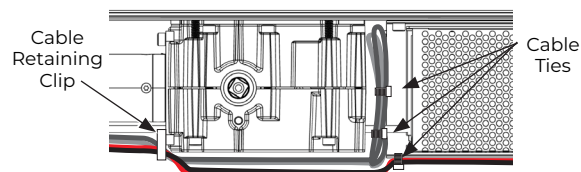

Figure 18 Left Hand Door, Looking down from top
3. With door fully closed, rotate the main arm toward the latch edge of the door until the arm tube is at a 90° angle (perpendicular) to the door. (Figure 18)
4. Use the arm screw provided with the main arm to secure the tube to the forearm rod. (Figure 18)
1. To prevent wire crimping, use the cable ties provided to neatly store excess wiring as shown. The power cabling to the Monitor board should be cable tied in front of the power supply. (Figure 18)